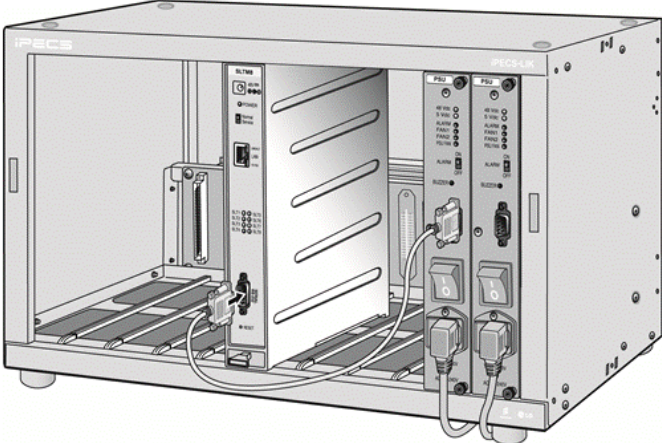

Figure 5.3-3 Monitoring cable Installation
4. To activate monitoring of the PSU and cabinet fans, connect the supplied serial cable from the DB9 connector of the PSU to the gateway Module defined in the System Data Cabinet Attributes. Refer to Figure 5.3-3. Note when a back-up PSU is installed, the serial cable is connected to the back-up PSU only. Also, when employing a WTIM as the notifying gateway Module, Dipswitch 3 of the WTIM, the Serial Mode switch, must be set to OFF, the Main CPU Serial mode.
6. To activate monitoring of the PSU and Main Cabinet fans, connect the supplied serial cable from the DB9 connector of the PSU to the monitoring gateway Module defined in the System Data Cabinet Attributes. Refer to Figure 5.3-3. When a back-up PSU is installed, the serial cable is connected to the back-up PSU only. Note that when employing a WTIM as the notifying gateway Module, Dipswitch 3 of the WTIM, the Serial Mode switch, must be set to OFF.